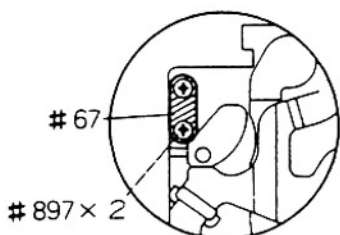

fig 4-2
- ② can be adjusted by re-locating #67. (fig. 4-2)
- ③ can be adjusted by replacing GII or Mirror holder FA3-53.